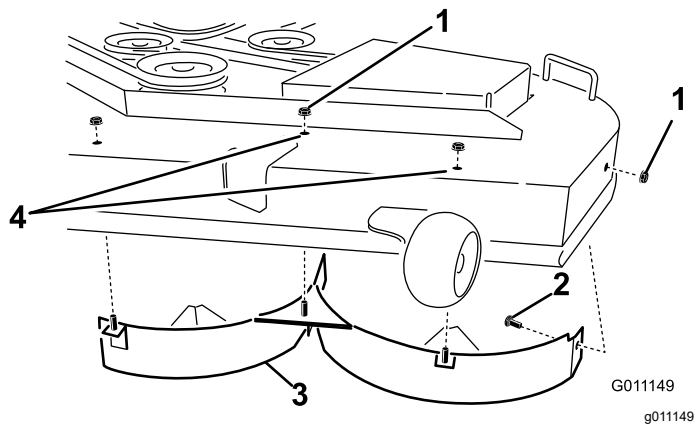

Figure 13
4. Remove the 2 locknuts (5/16 inch) secured to the welded posts of the left baffle on the top of the mower deck at the center and left of center positions (Figure 13).
6. Remove the left baffle from the mower deck as shown in Figure 13.